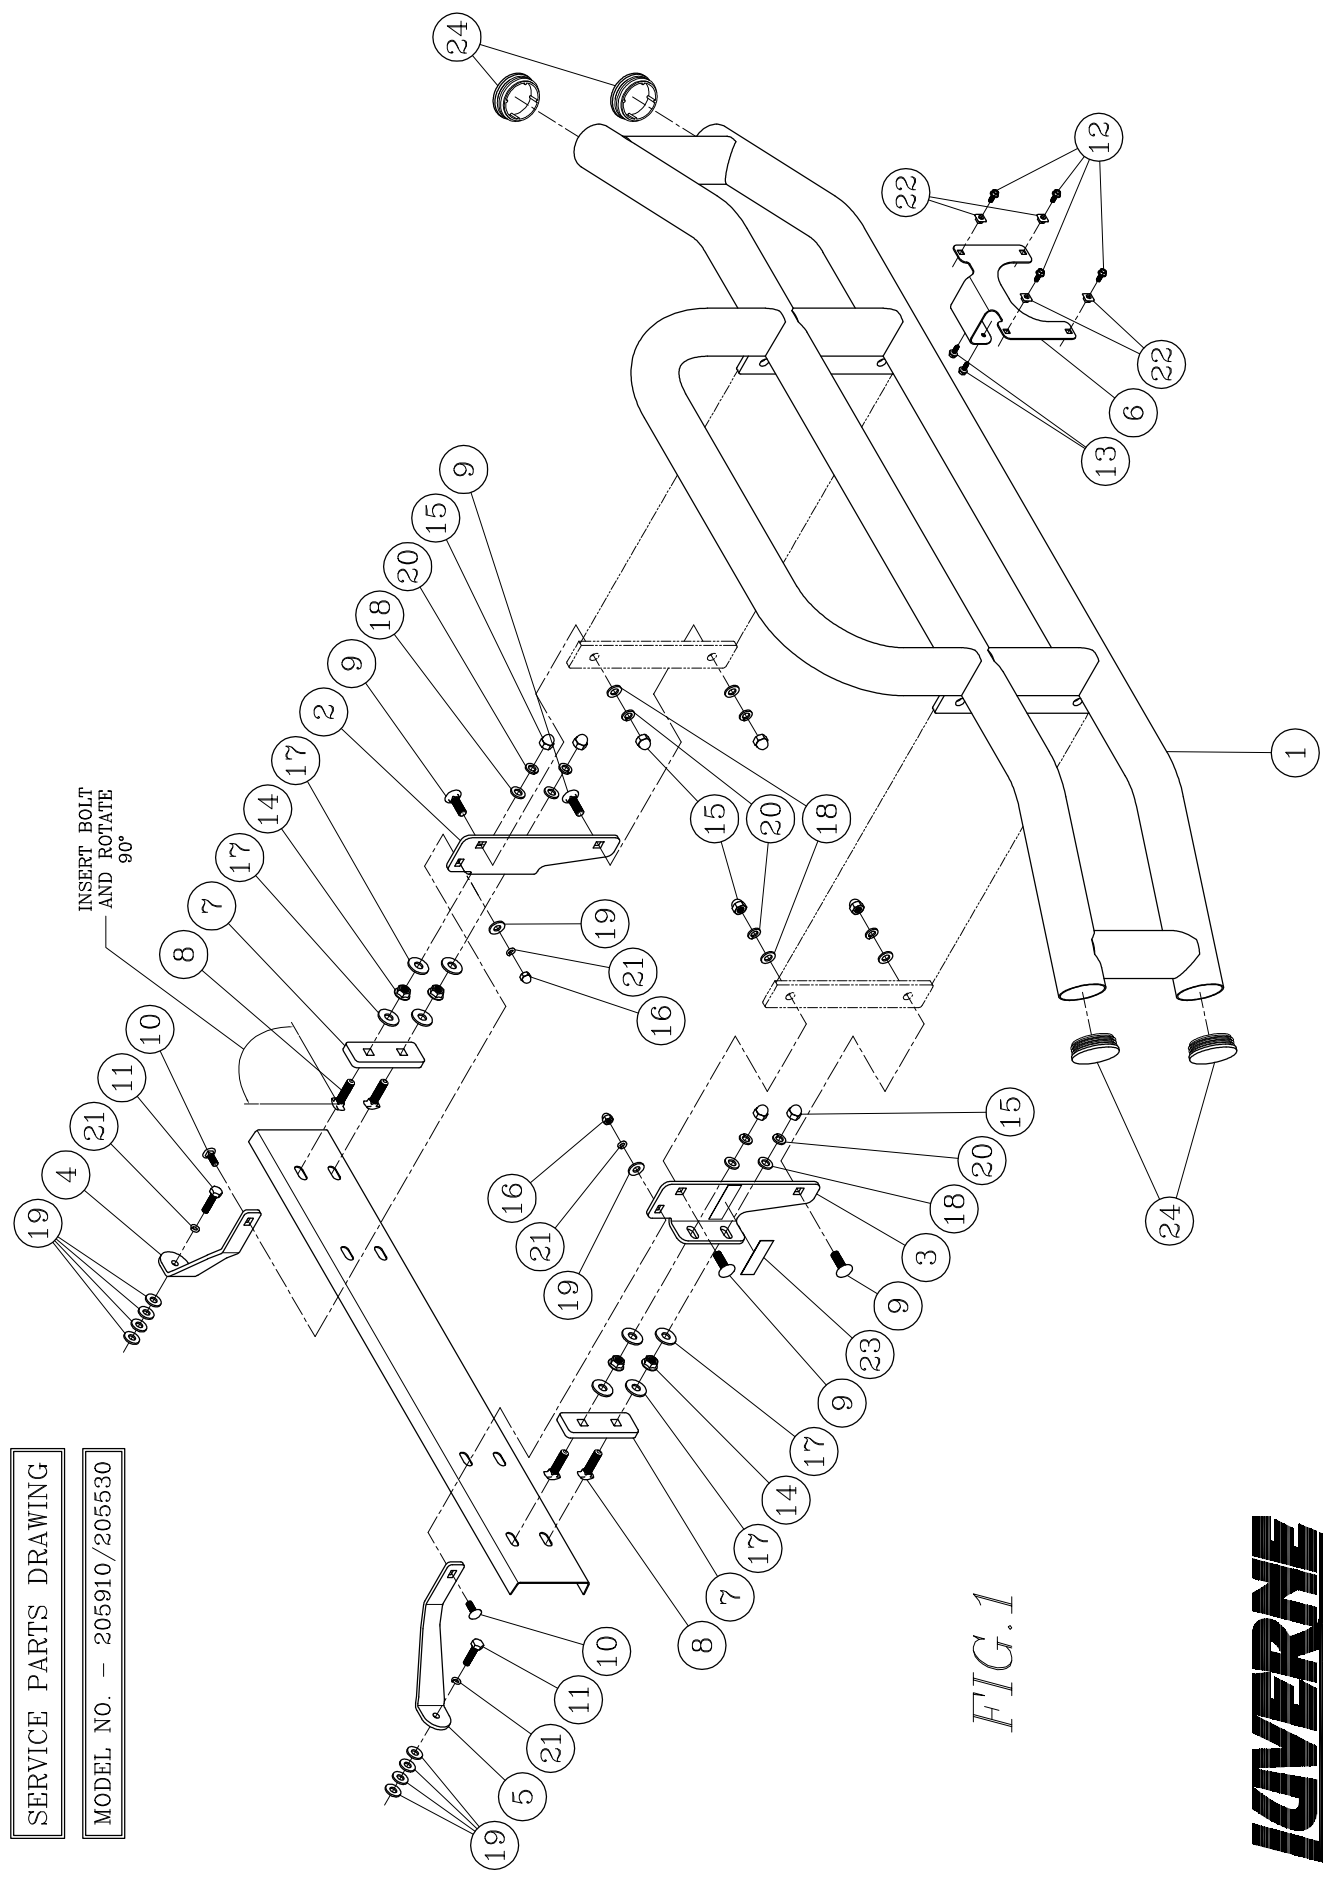

FIG.1
4. INSERTS THE HEADS OF THE CARRIAGE BOLTS INTO THE OUTSIDE SLOTTED HOLES OF THE BUMPER BAR AND TURN THEM 90°. PUSH THEM TO THE OUTSIDE OF THE SLOT. THE BOLTS SHOULD BE APPROXAMATELY 32-3/4" ON CENTER. TIGHTEN THE NUTS TO 65 FOOT-POUNDS. SEE *fig. 1 & 2*.
6. INSTALL THE LEFT HAND MOUNTING BRACKET BRACE BY INSERTING AN M10 X 1.25 X 40mm BOLT (ITEM #11) AND 3/8" LOCK WASHER (ITEM #21) THROUGH THE HOLE IN THE BRACE (ITEM #4) FOLLOWED BY FOUR 3/8" FLAT WASHERS (ITEM #19), THEN INSTALL THE BOLT IN THE HOLE AND SNUG UP. DO NOT TIGHTEN AT THIS TIME. SEE *fig. 1 & 4*.
13. INSTALL THE 1/2" FLAT WASHERS ON THE ENDS OF THE BOLTS ON THE FRAME, THEN INSTALL THE LEFT AND RIGHT MOUNTING BRACKETS AS SHOWN IN FIG. 1. FASTEN WITH THE 1/2" SAE FLAT WASHERS (ITEM #18), 1/2" LOCK WASHERS (ITEM #20) AND 1/2"-13 ACORN NUTS (ITEM #15). DO NOT TIGHTEN AT THIS TIME. SEE *fig. 1 & 6*.
14. INSTALL THE GRILLE GUARD BETWEEN THE BRACKETS AND FASTEN WITH THE 1/2"-13 x 1-1/4" CARRIAGE BOLTS (ITEM #9), 1/2" SAE FLAT WASHERS (ITEM #18), 1/2" LOCK WASHERS (ITEM #20) AND 1/2"-13 ACORN NUTS (ITEM #15). DO NOT TIGHTEN AT THIS TIME. SEE *fig. 1 & 6*.
15. FASTEN THE BRACES (ITEMS #4 & #5) TO THE MOUNTING BRACKETS (ITEMS #2 & #3) WITH THE 3/8"-16 x 1-1/4" CARRIAGE BOLTS (ITEM #10), 3/8" FLAT WASHERS (ITEM #19), 3/8" LOCK WASHERS (ITEM #21) AND 3/8"-16 ACORN NUTS (ITEM #16). DO NOT TIGHTEN AT THIS TIME. SEE *fig. 1 & 6*.